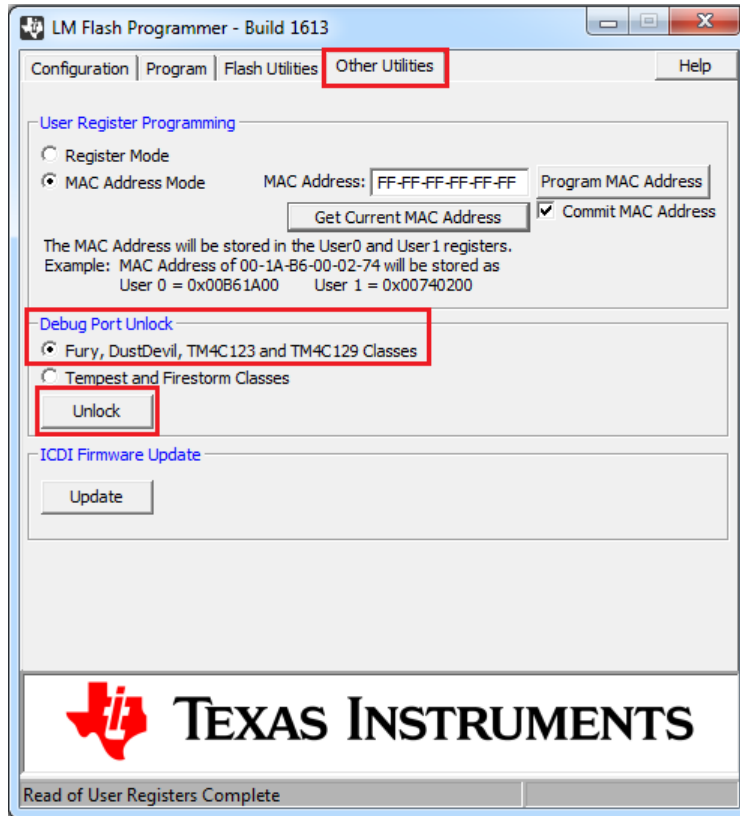

Figure 17. LMFlashProgrammer Unlock Sequence Tab
1. Start the LMFlashProgrammer utility and go to the tab "Other Utilities" (see Figure 17). Select the radio button in front of "Fury, DustDevil, TM4C123 and TM4C129 Classes".